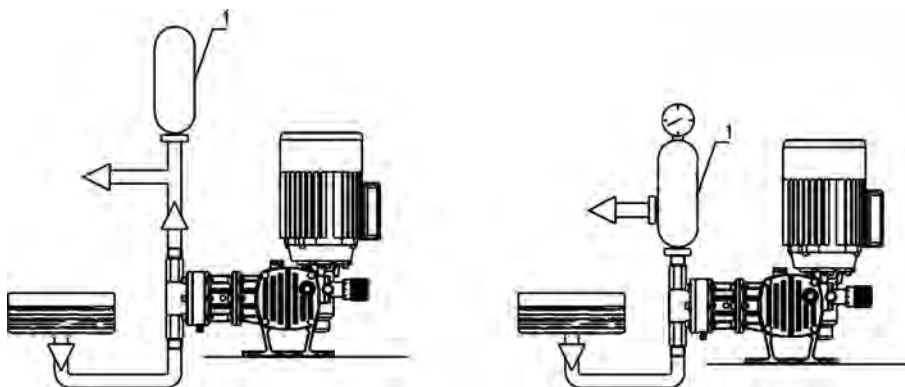

Fig. 5 – Layout of Pulsation Dampener
5.3.3 Pulsation Dampener. (Ref.1 - Fig.5)